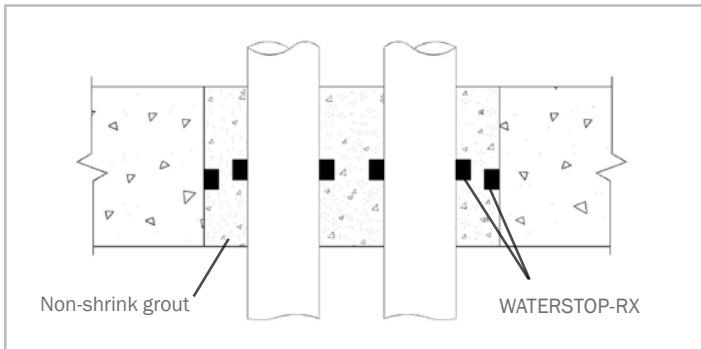

Figure 4.3 – Multiple pipe penetration
**Multiple Pipe Penetrations:** Install WATERSTOP-RX around each pipe, as well as, around any block out box construction joint. WATERSTOP-RX 102 shall be installed around penetrations with less than 100mm (4") between penetrations (see Figure 4.3).